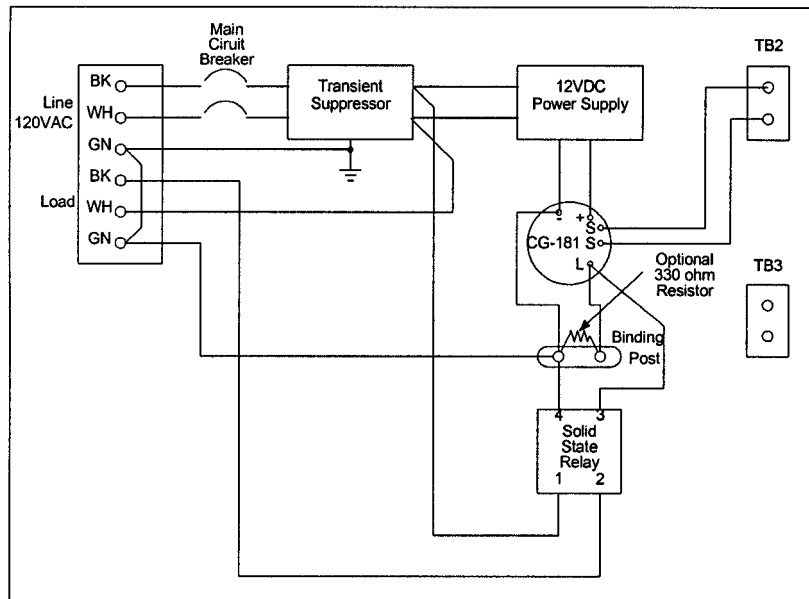

Figure 7-1
- b. A CG-181, with the proper rhythm, and a daylight control (Type-L, if necessary) must be installed in the ACFC for proper operation (see Figure 7-1). One daylight control may be